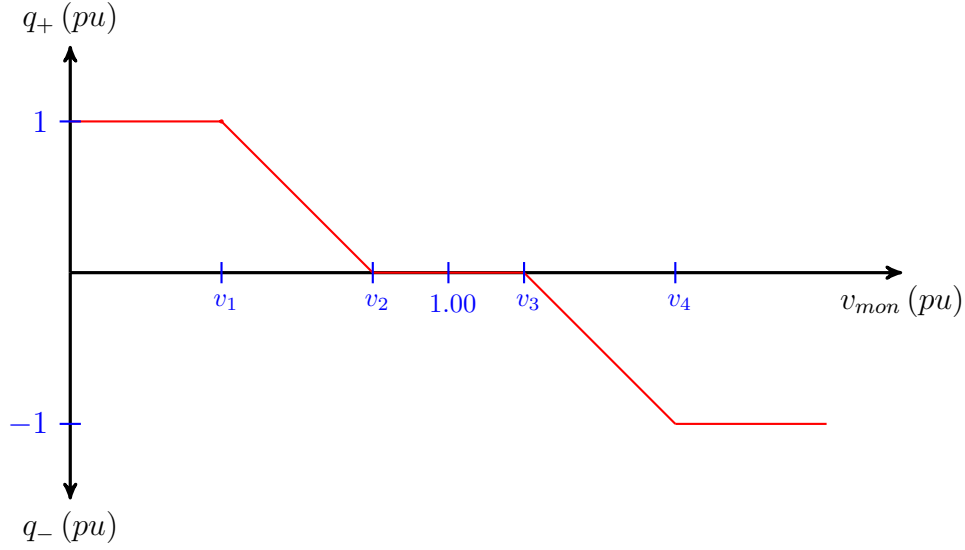

Figure 9: volt-var curve
**Smart Inverter volt-var Function** For the smart inverter volt-var function, the monitored voltage in *pu* is applied,  $v_{mon}[t]_j$ , in the volt-var curve defined in the *vvc\_curve1* property to obtain the desired reactive power value in *pu*,  $q_{Dfun}[t]_j$ . The Figure 9 below shows an example of an user-defined volt-var curve.